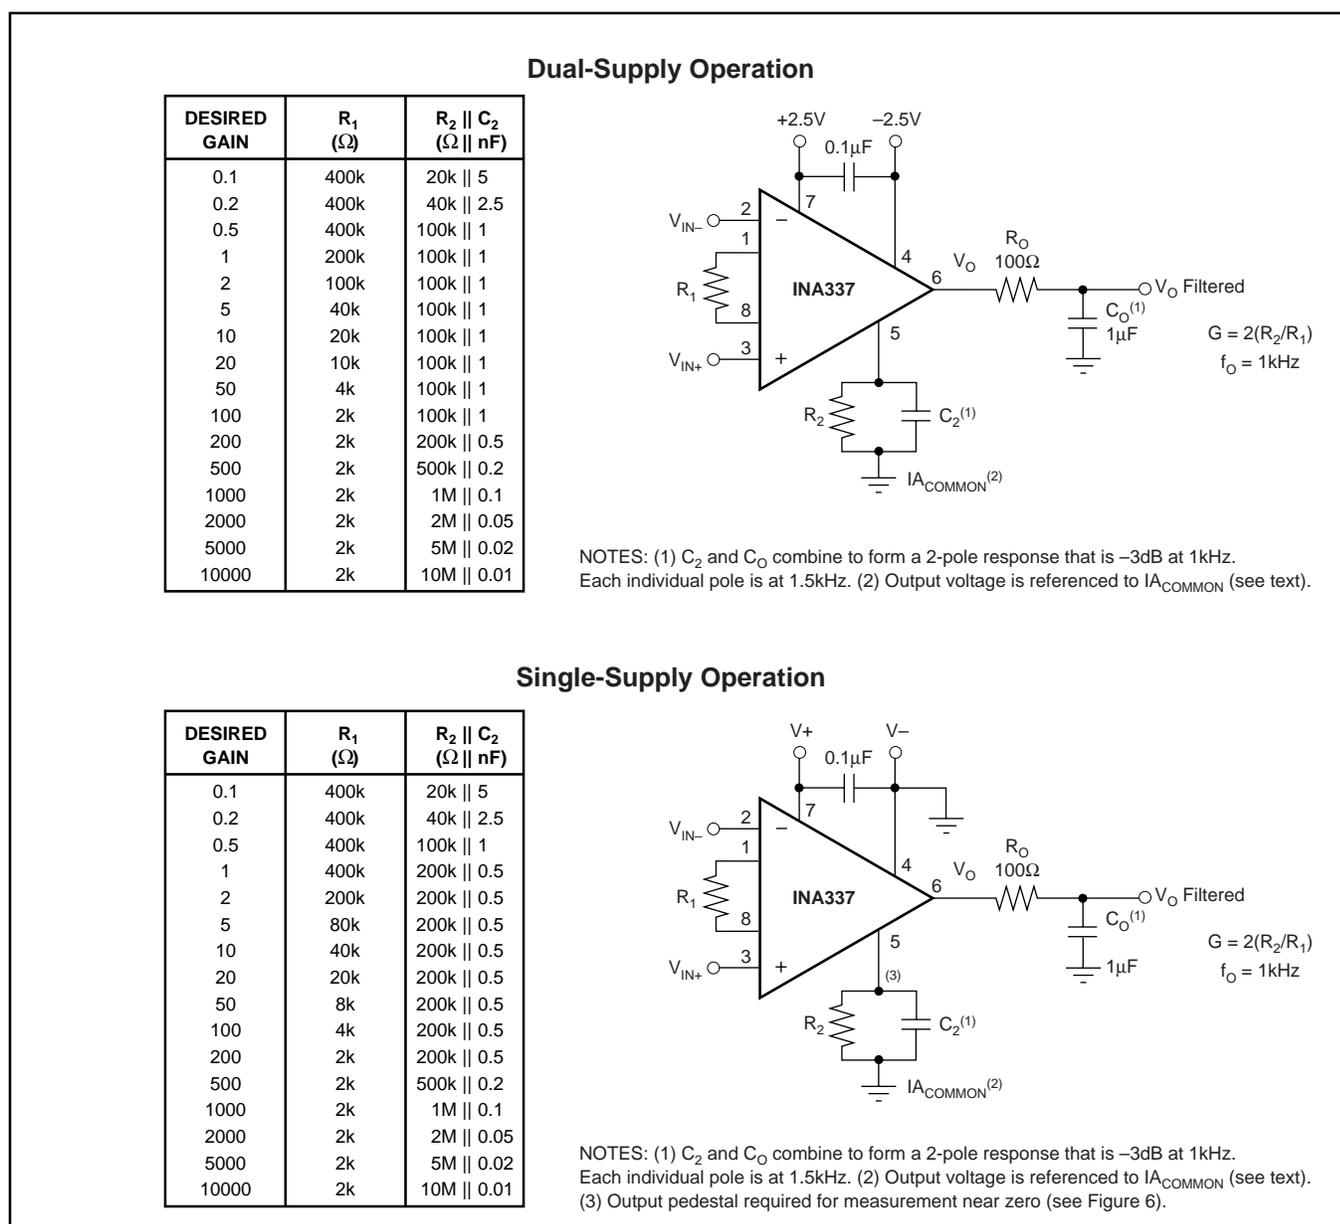

FIGURE 1. Basic Connections. NOTE: Connections for INA338 differ—see Pin Configuration for detail.
NOTES: (1) 1000-hour life test at $150^{\circ}C$ demonstrated randomly distributed variation in the range of measurement limits—approximately $10\mu V$. (2) See Applications Information section, Figures 1 and 2. (3) Does not include error and TCR of external gain-setting resistors. (4) Dynamic response is limited by filtering. Higher bandwidths can be achieved by adjusting the filter. (5) See Typical Characteristics, "Input Offset Voltage vs Warm-Up Time".
Figure 1 shows the basic connections required for operation of the INA337. A 0.1µF capacitor, placed close to and across the power-supply pins is strongly recommended for highest accuracy. $R_O C_O$ is an output filter that minimizes auto-correction circuitry noise. This output filter may also serve as an anti-aliasing filter ahead of an Analog-to-Digital (A/D) converter. It is also optional based on desired precision.
Resistor values for commonly used gains are shown in Figure 1. Gain-set resistor values for best performance are different for +5V single-supply and for ±2.5V dual-supply operation. Optimum value for R_1 can be calculated by:
Circuit layout and supply bypassing can affect performance. Minimize the stray capacitance on pins 1 and 8. Use recommended supply bypassing, including a capacitor directly from pin 7 to pin 4 ($V+$ to $V-$), even with dual (split) power supplies (see Figure 1).